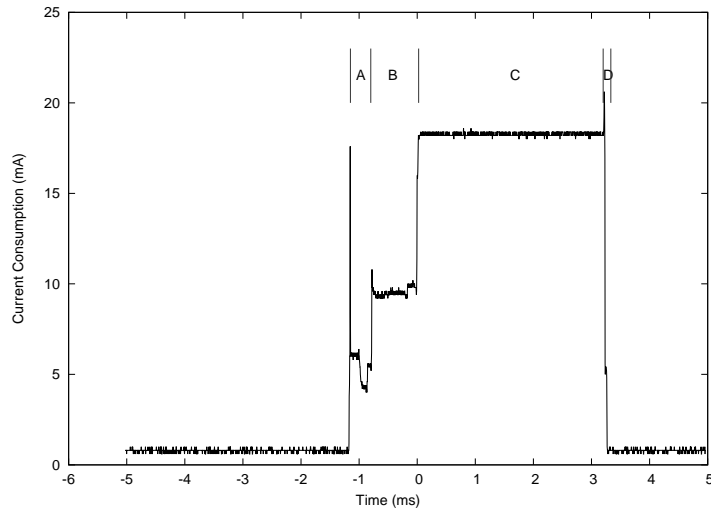

Fig. 17. Energy consumption measured when sampling the channel.
- Freeze the screen once this is done, you should obtain a screen close to Fig. 17.
Duration and average current consumption of the different phases observed in Fig. 17. Measurements averaged over 128 samples.